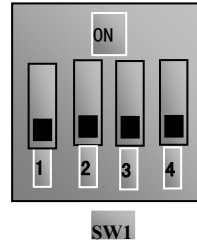

Figure 4-4
- (2) Press the “Mode” key, to enter the programming menu.
- (3) Study the parameters of the motor; the operation process is the same as that of example 1.
(4) Set functional parameters of the inverter:
(5) There is a red four-digit coding switch SW1 near the control terminal block of three-phase inverter, as shown in Figure 4-4. The function of coding switch is to select the input range (0~5V/0~10V) of voltage type analog input terminal AI1. In actual application, select the analog input channel through F203. Turn switches 1 and 3 to OFF as illustrated in the figure, and select 0~5V voltage speed control.